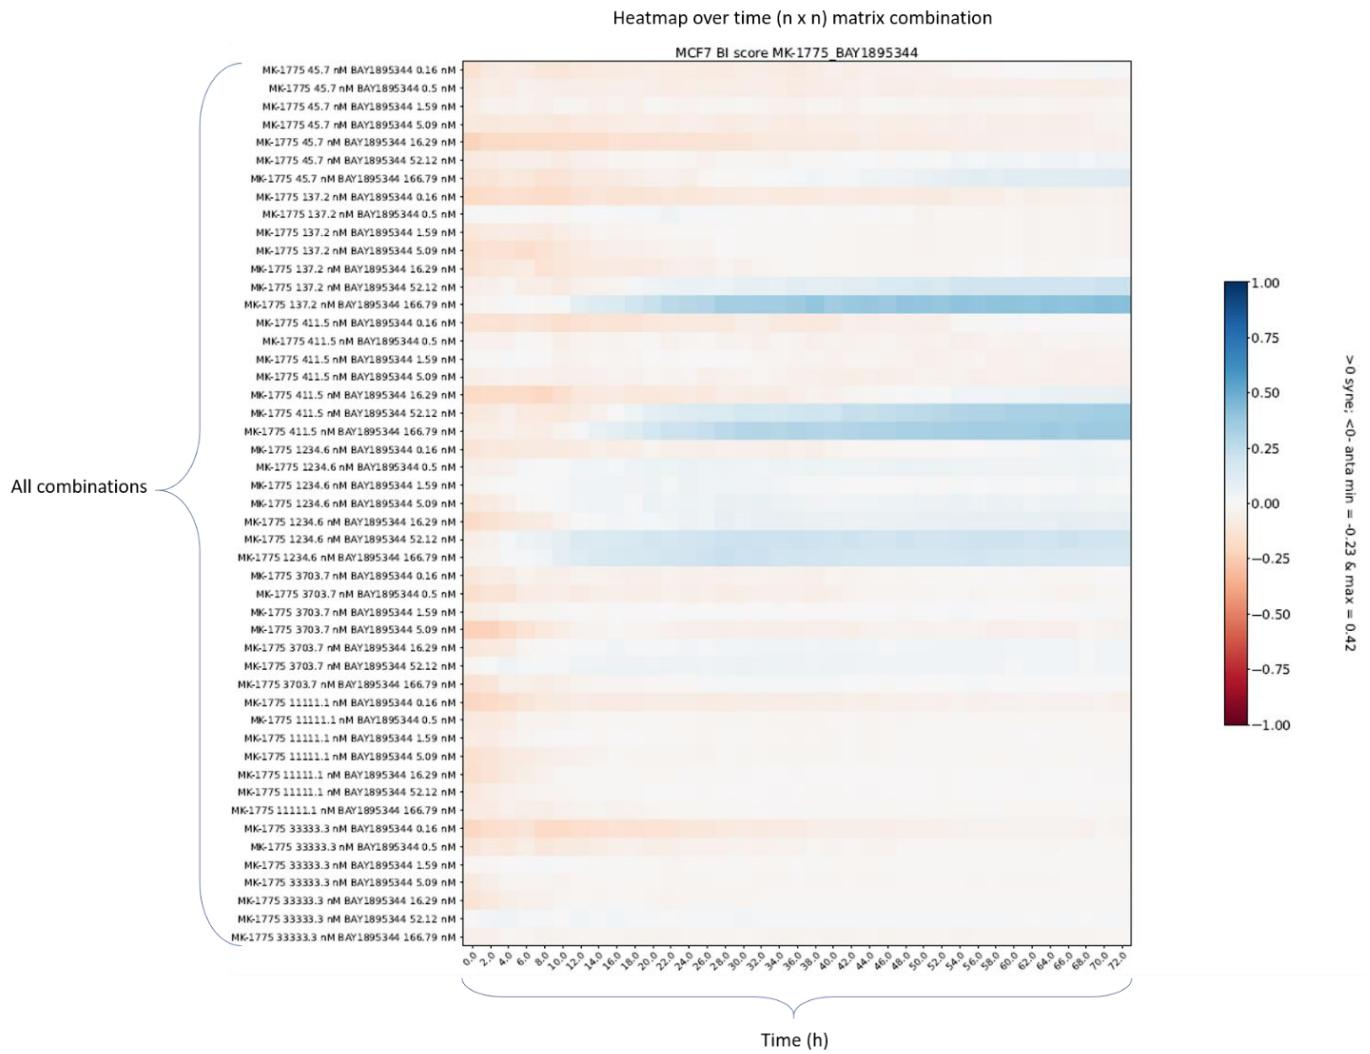

Figure 33: Heatmap over time for (n x n) matrix combination.
- ($n \times n$) matrix combination, see Figure 33.